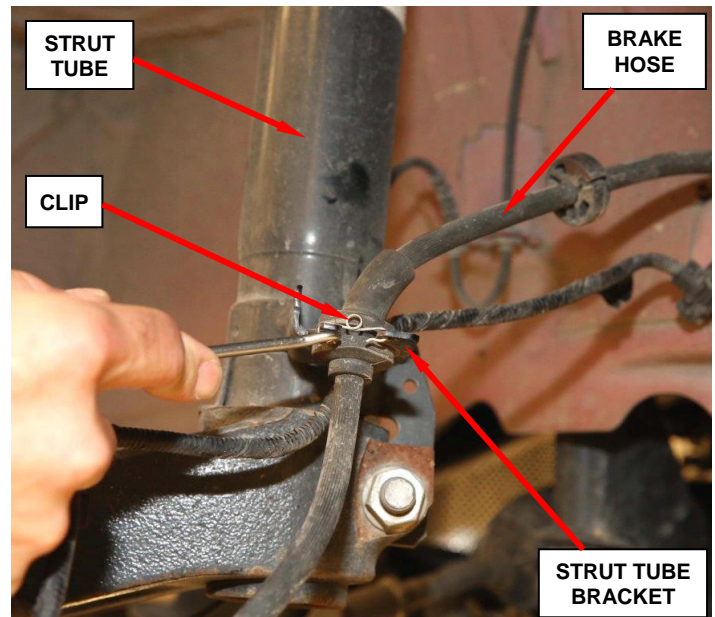

Figure 23 – Brake Hose Clip
20. Disconnect the brake hose from the strut tube bracket (Figure 23).